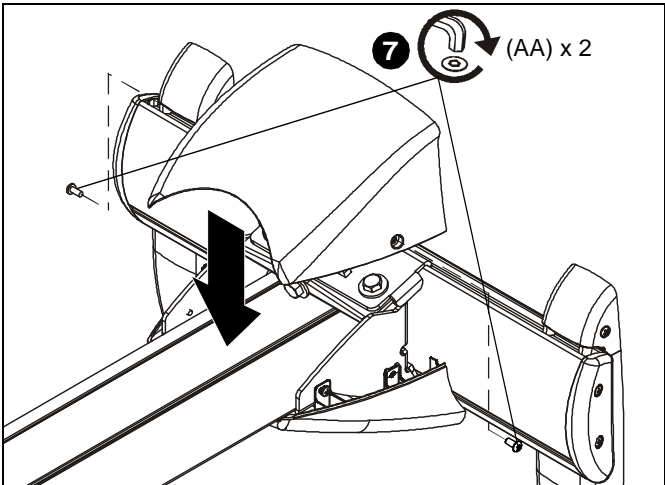

Figure 45
5. Replace upper cover and install two 8-32 x 3/8" button head security screws (AA) into upper cover. (See Figure 45)